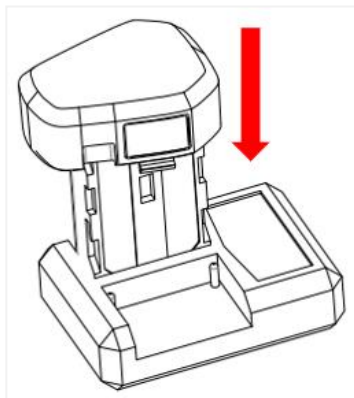

Figure 4.1 Charging by Charging Base
(1) Charging Base
- Connect the adaptive charger of the charging base to start charging (see Figure 4.1).